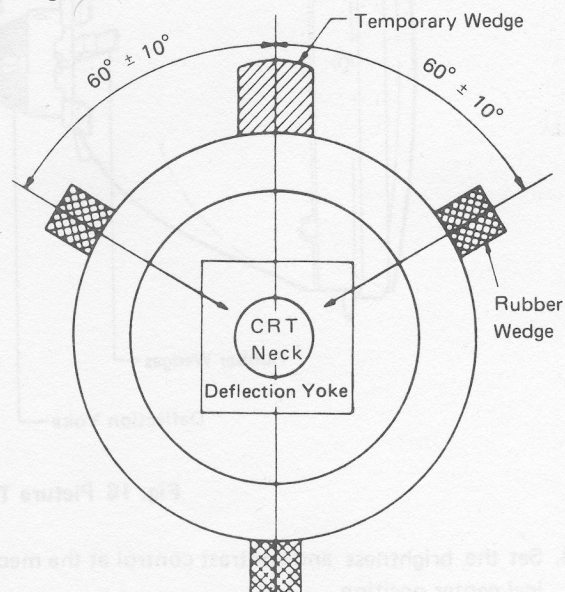

Fig. 14
4.15 Precise Adjustment of Dynamic Convergence (See Figs. 14 and 15)
- Insert three rubber wedges to the position as shown in Fig. 14 to obtain the best circumference convergence.
- The angle of each rubber wedge is shown in Fig. 14.